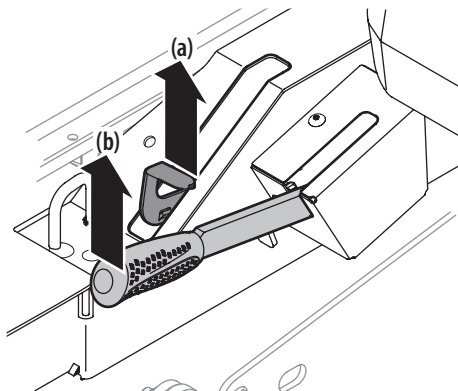

Figure 2-2
4. Engage the transmission bypass valves by pulling the bypass lever (a) outward then upward and all the way back. See Figure 2-2.
6. To release the bypass lever (a), push the lever forward. See Figure 2-2.
7. To engage the parking brake, pull back completely on the parking brake lever (b). See Figure 2-2.